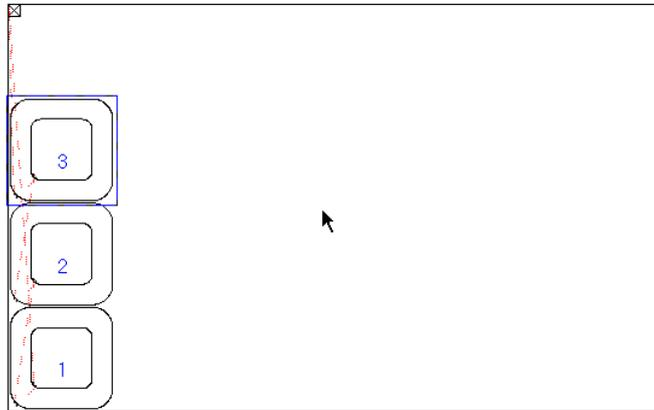

Figure 6-11-4
- Y Array: starting from the position of the part, program will make nesting for a row of demanded parts along positive direction of Y axis, until coming up against other parts or edge of plate. During nesting, the minimum spacing of part will be remained. Figure 6-11-4 is for reference: